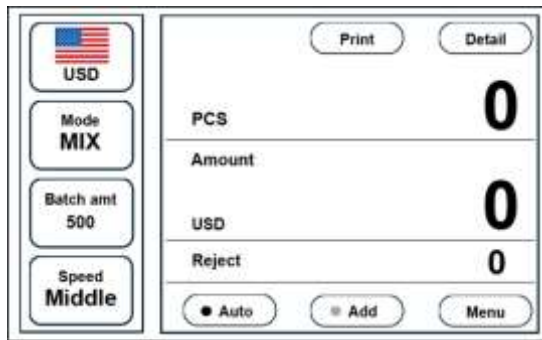

Figure 42
3) The “Batch amt 500” logo is displayed on the left side of the main interface as shown in Figure 42.